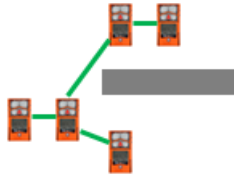

Figure 5.6 LENS group peer-instrument locations
- With a *manual* setting, the instrument can join and leave any LENS group as needed (see Figure 5.6).